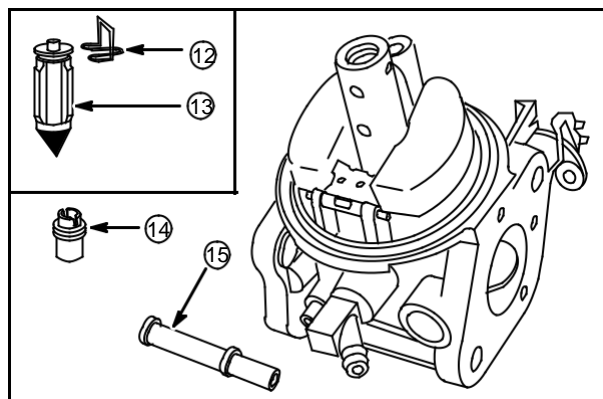

Fig. 36
Assemble inlet needle retainer (12) to inlet needle (13). Assemble to float, **Fig. 36**.